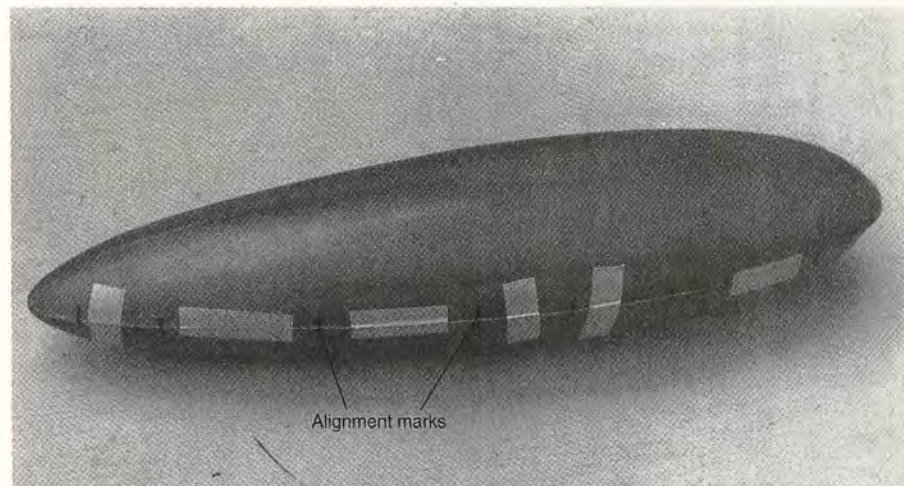

Fig. 4. After test fitting, the blimp-bag halves are temporarily tacked together with tape and marked for alignment.
**Bagging the blimp.** The Skytech kit is molded in fiberglass, Fig. 3. After trimming off flash I taped sandpaper to a table top and trued the halves, then marked them for future alignment, Fig. 4.